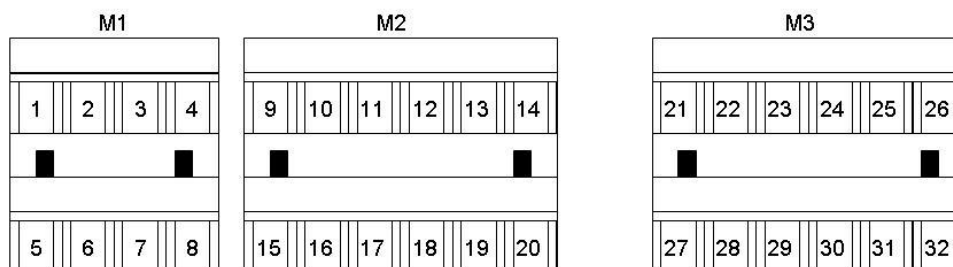

Figure 197: Input-output signal terminal boards
- Output line-driver encoders supplied from 5V external source: pin 5 in M1 “+5V_EXT” at 5V and pin 7 in M1 “0V_EXT” at 0V (see Figure 197).